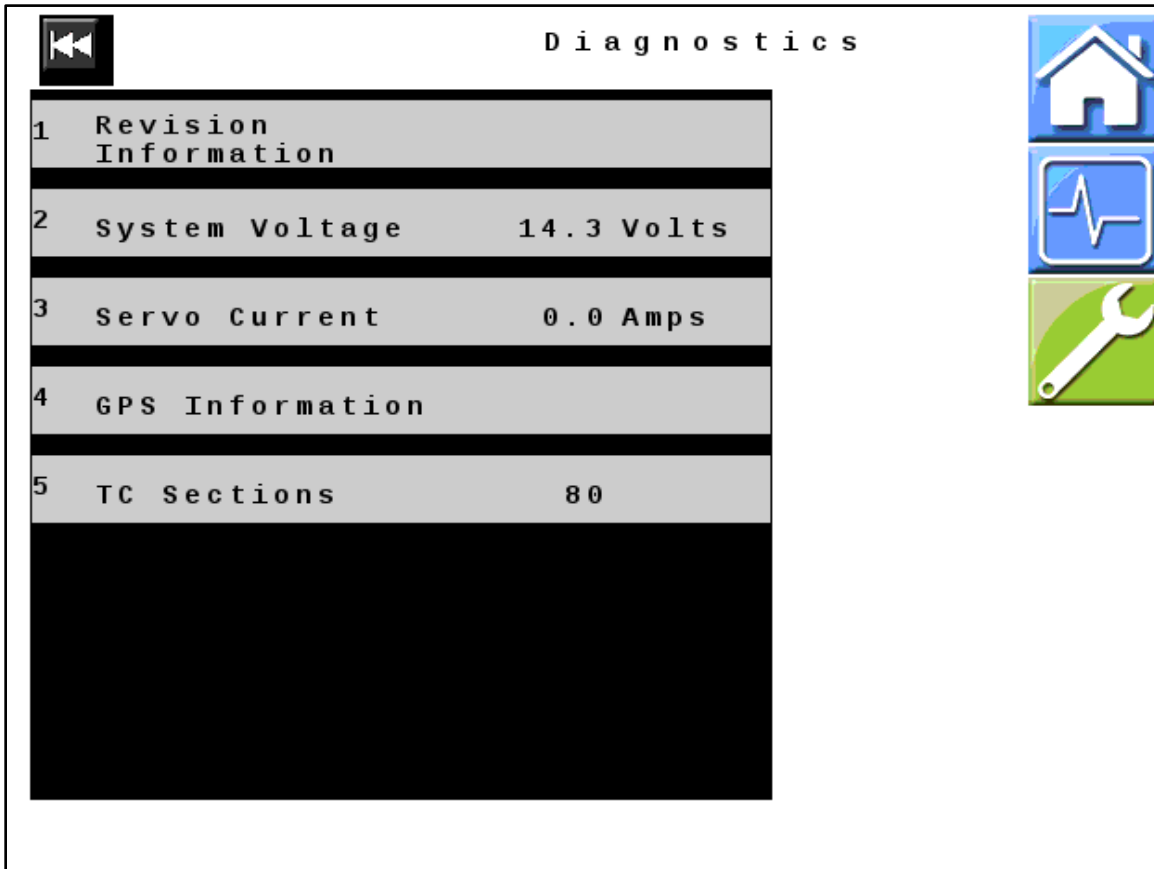

Figure 10 — Diagnostics
18. *Figure 10*: Verify that the data displayed in these fields on your unit correctly matches your machine's specifications.